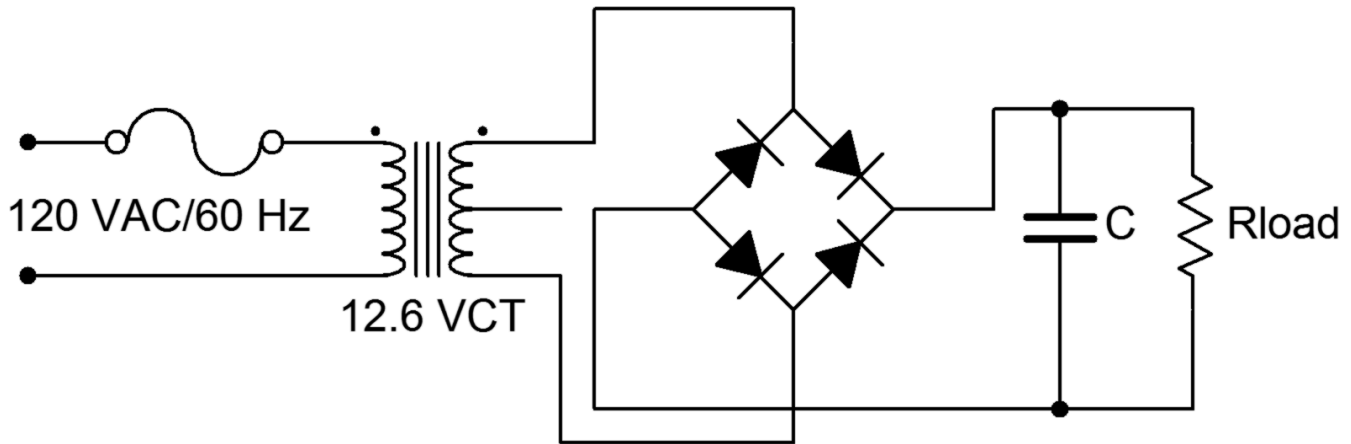

Figure 1
1. First, note that the circuit of Figure 1 is being powered directly from the AC line. Treat it with appropriate caution. It is worth repeating that any circuit should be de-energized when making any changes to it.
2. Consider the circuit of Figure 1 without the capacitor connected. For a positive polarity of secondary voltage, the upper right and lower left diodes will be forward biased and allow current to flow through the load from top to bottom. The other two diodes will be reverse biased. For a negative secondary polarity the opposite occurs. That is, the upper left and lower right pair will be forward biased while the other two are reverse biased. This arrangement will also cause load current to flow through the load from top to bottom, thus effectively flipping the negative polarity portion of the wave.
3. Build the circuit of Figure 1 with  $R_{load} = 1\text{ k}\Omega$  and  $C$  disconnected (open). This represents a very lightly loaded case. Under light loads, the output of the secondary will often be a little higher than the rated potential. Set the oscilloscope input to DC coupled. Measure and record the voltage across the secondary and then across the load. Do not use two probes to do this simultaneously as these two measurements do not share a common ground. Doing so will short out a portion of the circuit. Record the results in Table 1 and capture an image of the load voltage display.
1. Simulate the circuit of Figure 1 using Transient Analysis. Use three variations, comparing the plotted waveforms to those measured in the laboratory:  $C = \text{open}$  with  $R_{\text{load}} = 20\ \Omega$ ,  $C = 1000\ \mu\text{F}$  with  $R_{\text{load}} = 1\ \text{k}\Omega$ , and  $C = 1000\ \mu\text{F}$  with  $R_{\text{load}} = 20\ \Omega$ .